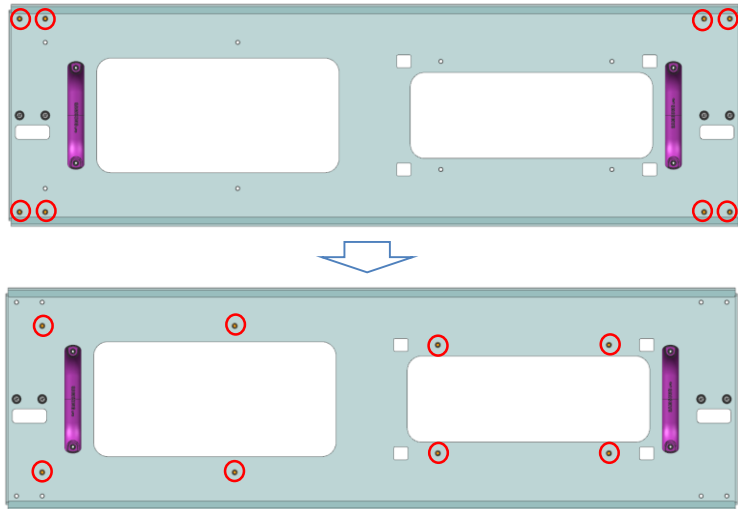

Fig 9. Before and After Changing the JIG Stud Location
- The Stud location of the default JIG must be adjusted (FIG 9).